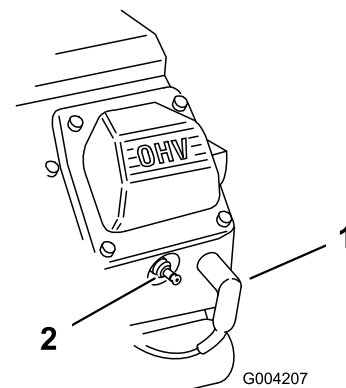

Figure 153
2. Pull the wires off the spark plugs (Figure 153).